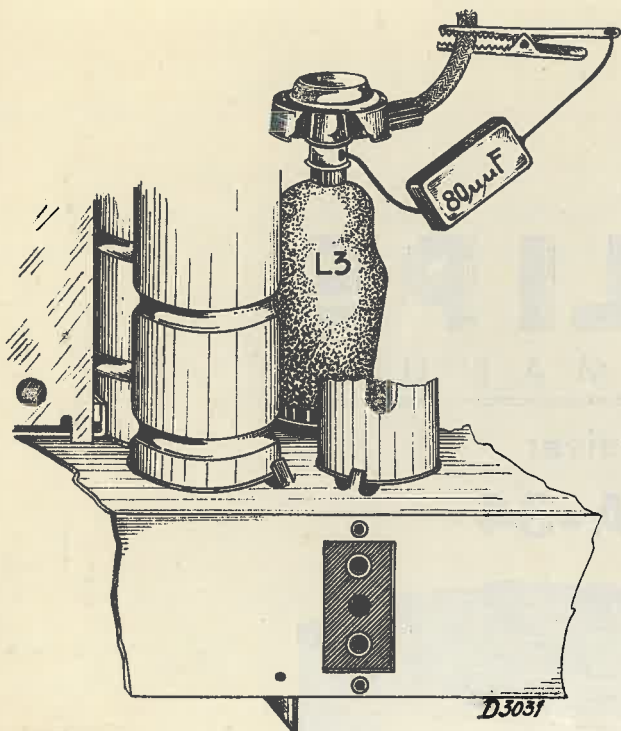

Fig. 2
8. Detune second I.F. circuit with 80 μF (see Fig. 2) and trim S24 in the first I.F. circuit.